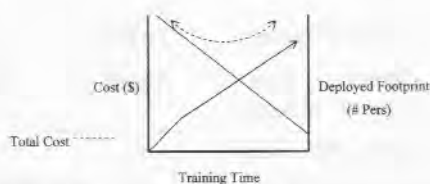

Figure 1: Optimisation of Training
18. The combined arms approach will see force deployments consisting of a cross section of equipment types. For example, a typical force group under a HNA construct is likely to consist of the complete range of projects under the DCP. Assuming the need for training on each equipment, it is assessed that optimisation of the maintenance footprint can only be achieved by a balanced approach towards training. It is simple to recognise that additional training effort will constitute a higher cost to Army. Similarly, minimisation of training will result in larger footprints in support of operations as individuals become equipment specific specialists. These relationships are demonstrated in general at figure 1. It is assessed that there must be an optimum number of qualification sets to ensure the most effective maintenance capability is developed.